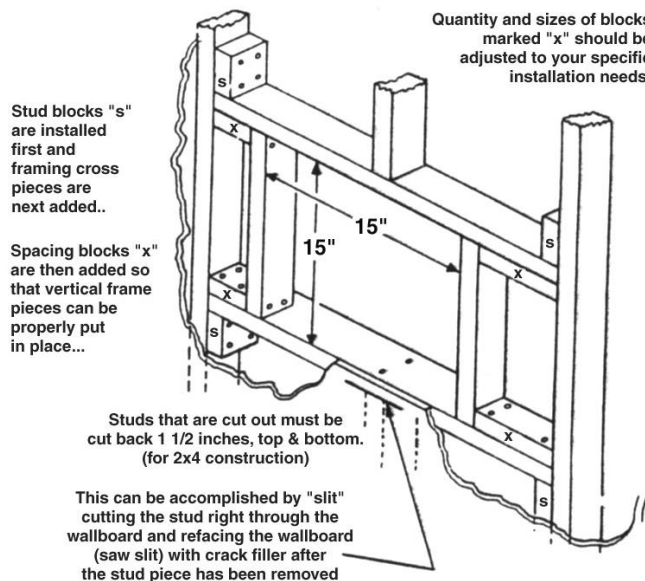

Figure 2: Framing and Header Suggestions
2. Saw along the marked lines to remove the 15" square piece of wall material. **CAUTION:** Make sure there are no electrical wires within the wall. The 15" square opening created must be kept completely free of combustibles. This means that if a wall stud or any other combustible material is encountered within the opening, it must be removed. If a wall stud is thus removed, it is recommended that in addition to cutting a section of wall stud out, appropriate framing or headers (as required) be installed. (See Figure 2)